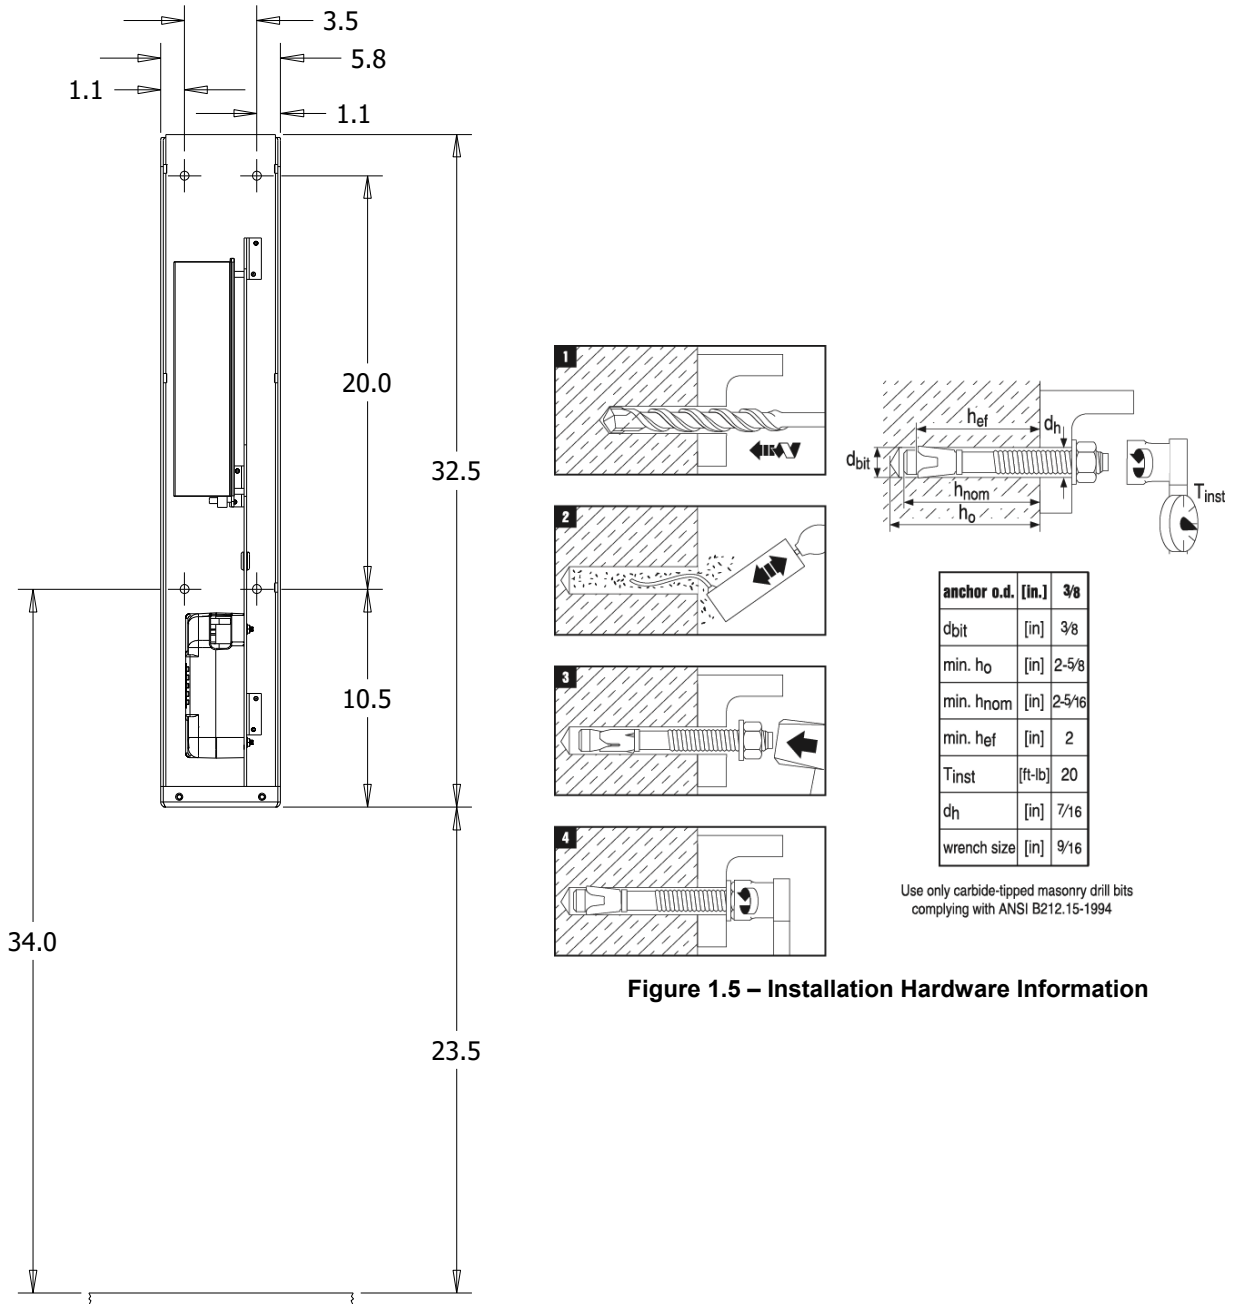

Figure 1 – L1 PowerPost® EVSE Mounting Hole Locations
- / Four Hilti KB3 3/8" x 3-3/4" LT SS304 torqued to 20 ft-lb. (See Figure 1 for spacing)